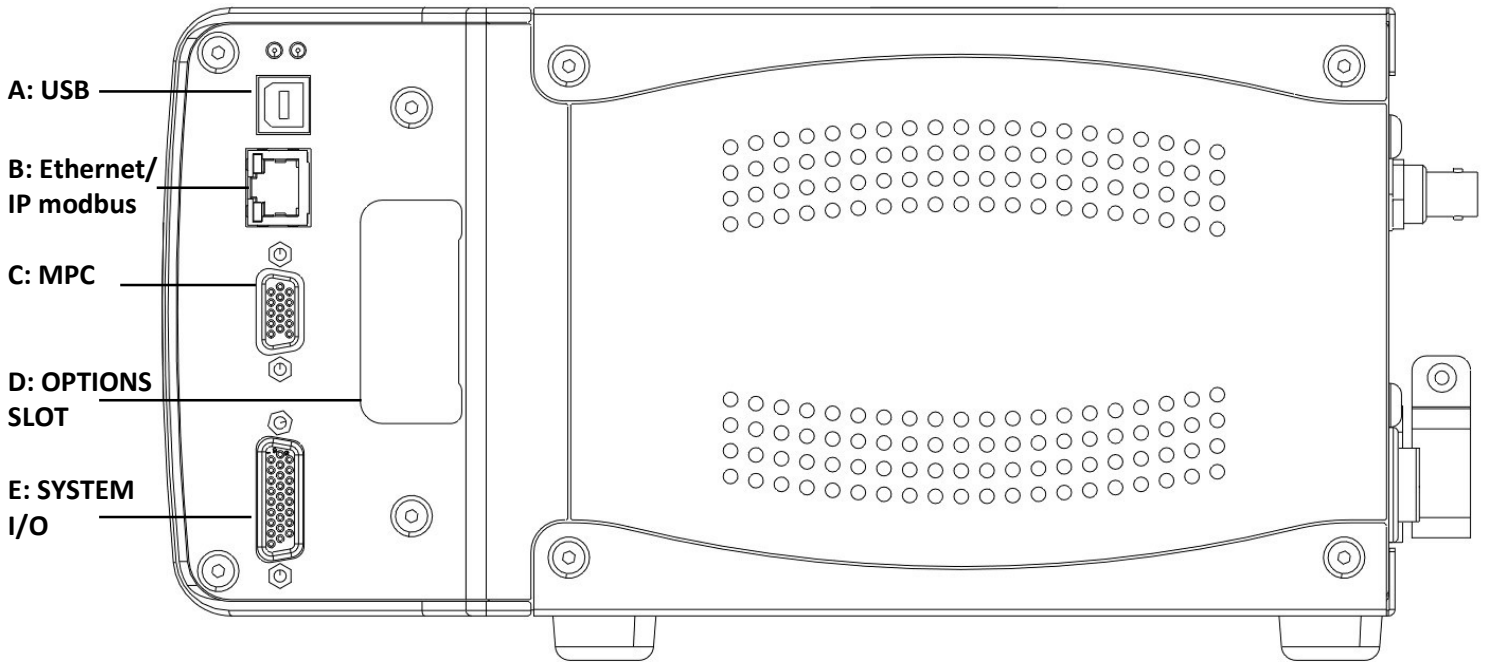
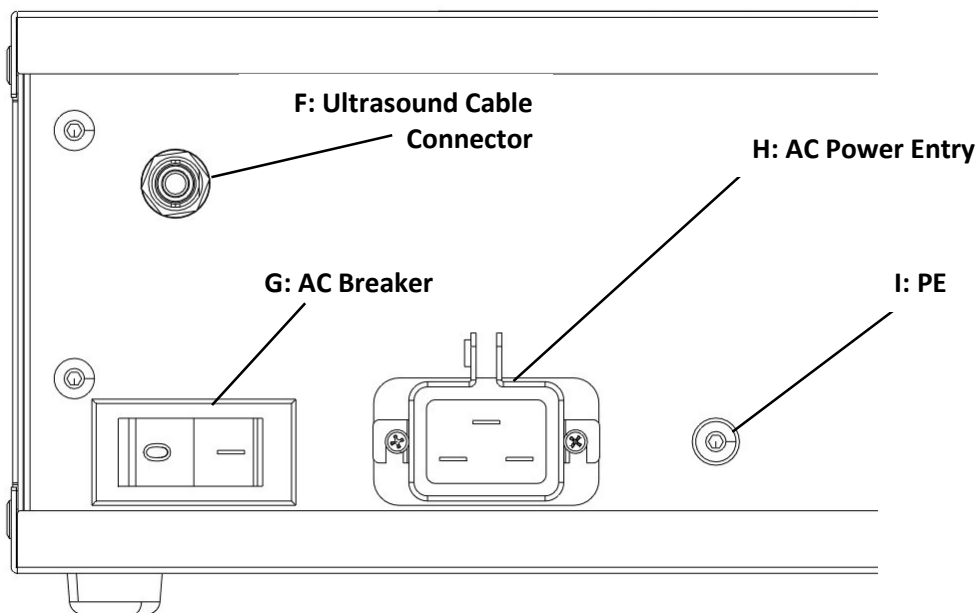

Figure 4. Side view of the generator.
Figure 5. Rear view of the generator.
Schematics of the side and rear views of the generator are presented in Figure 4 and Figure 5, respectively. Descriptions of each item on the side and rear of the generator are provided in Table 1 .
1. Attach the ultrasound cable between the transducer and the ultrasound output connector (**F** in Figure 5).
2. Connect the supplied AC power cord to the generator's IEC power inlet connector (**H** in Figure 5) and plug the other end into an approved AC outlet.
Run the supplied green 14-gauge wire from the ground stud connection (**I** in Figure 5) to the nearest grounded metal pipe or equivalent earth ground and secure it with a ground clamp.
The SYSTEM INPUTS/OUTPUTS (I/O) connector (**E** in Figure 4) mounted on the system I/O panel includes connections for all basic system control input and output signals that will typically be associated with an automated control system. A
The Ultrasound Input Connector is a high-voltage SHV-BNC connector, which meets the demands for heavy duty & heavy power applications under rugged environmental conditions. It provides superior shielding of electrical noise and mates with a corresponding connector on a fully shielded coaxial ultrasound cable that on the other side is attached to the SHV-BNC-type Ultrasound Output Connector at the generator (F in Figure 5).